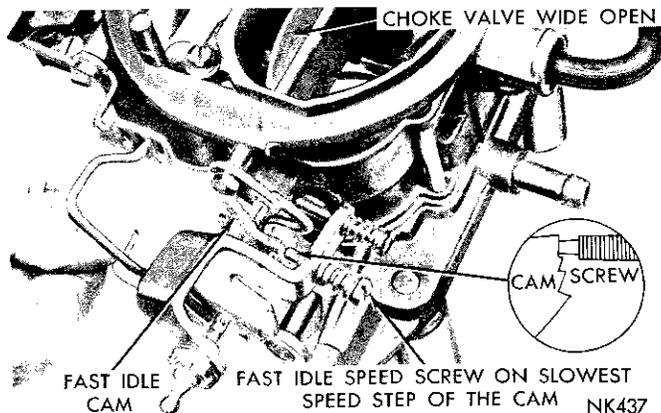

Fig. 24—Fast Idle Speed Adjustment (on the Engine)
- (1) With the engine running and the transmission in the neutral position, open the throttle slightly.
- (2) Close the choke valve about 20 degrees then allow the throttle to close. Return the choke valve to the open position.
- (3) The fast idle speed adjusting screw should be contacting the lowest step on the fast idle cam, as shown in (Fig. 24).
- (4) With the engine warmed-up to the normal operating temperature, turn the fast idle speed adjusting screw **in** or **out** to secure 700 r.p.m. (Automatic Transmission) or 700 r.p.m. (Manual Transmission). **Reposition the cam and throttle after every screw adjustment to apply normal throttle closing torque.** (\*After Approx. 500 Miles) (If Necessary).